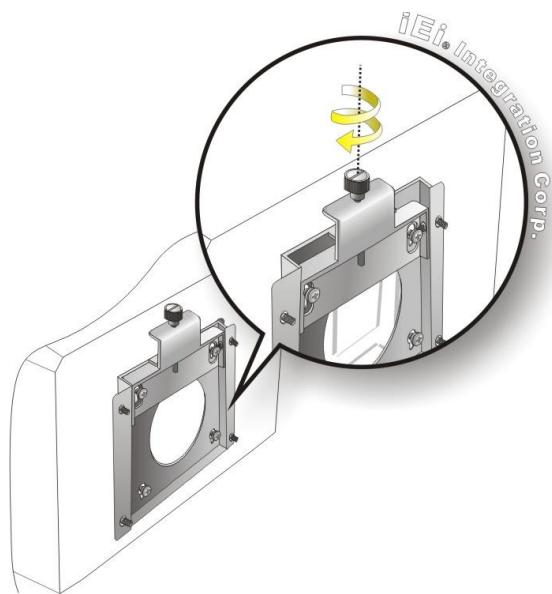

Figure 3-21: Secure the Panel PC
Step 9: Secure the panel PC by fastening the retention screw of the wall-mounting bracket (**Figure 3-21: Secure the Panel PC**).